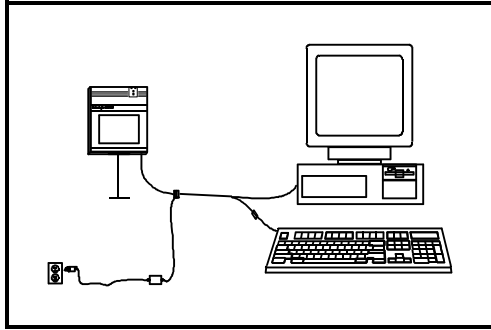

Figure 1
4. Plug the communication cable to the PC and the keyboard. (Refer to Figure 1).